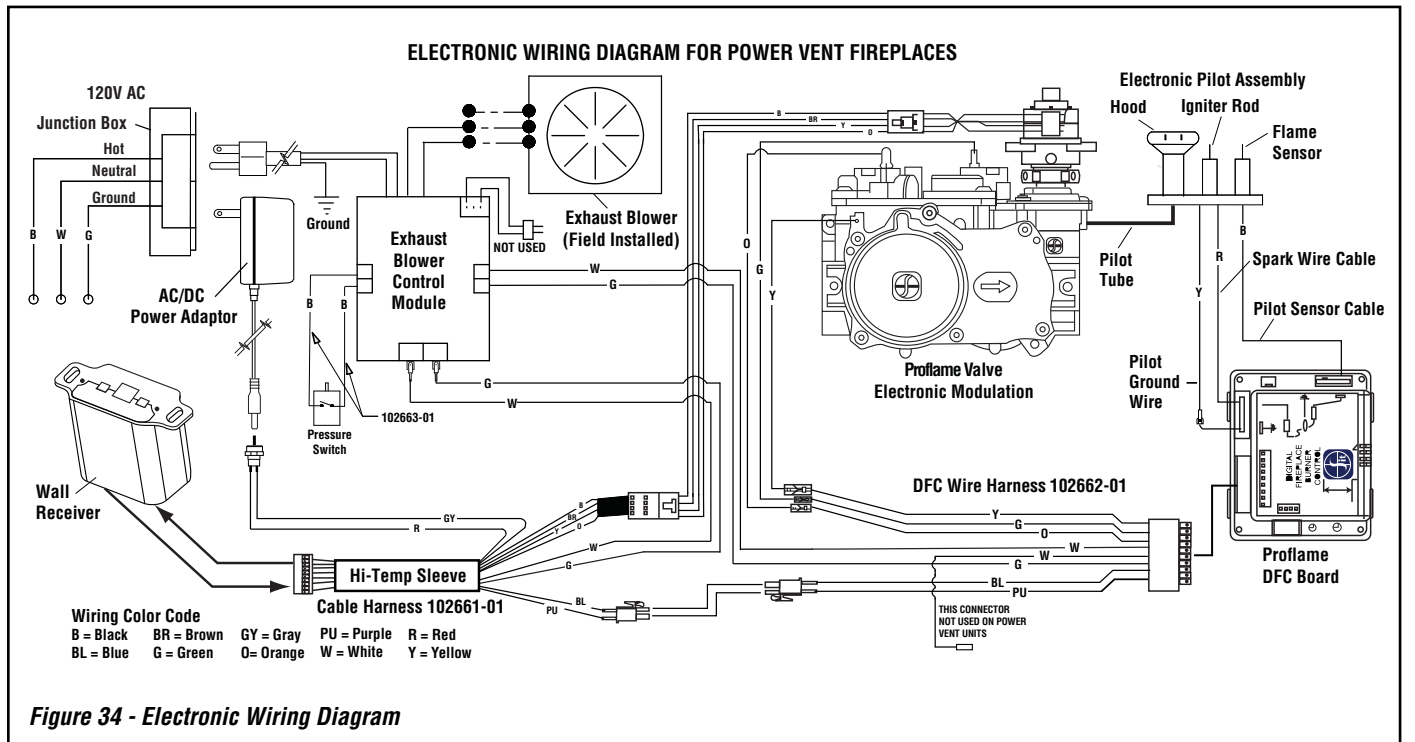

Figure 34 - Electronic Wiring Diagram
**CAUTION:** Ground supply lead must be connected to the wire attached to the green ground screw located on the outlet box. See *Figures 34 and 35 on Page 25*. Failure to do so will result in a potential safety hazard. The appliance must be electrically grounded in accordance with local codes or, in the absence of local codes, the National Electrical Code, ANSI/NFPA 70-latest edition (In Canada, the current CSA C22.1 Canadian Electrical Code).
### Wiring: Fireplace (See Figures 34 and 35 on Page 25)
- Refer to Figure 34 on Page 25 and install the electrical hardware on the fireplace end of the Romex wiring. Male terminals (#10) on the Black and White wires, and ring terminals (#9) on the ground wire. The termination end of the Romex will be connected to the termination with wire nuts (not provided).